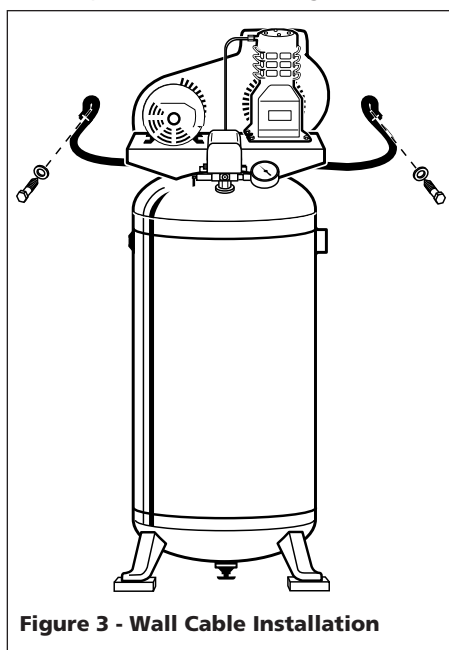

Figure 3 - Wall Cable Installation
2. Position the cable through the baseplate as shown in Figure 3.